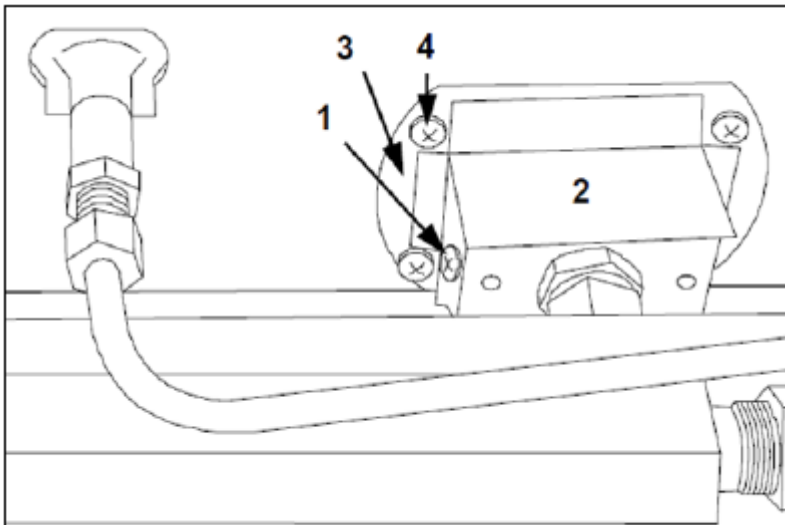

FIG.16
- Remove the air-regulation burner (FIG.16-Ref.2) unscrew the screws (FIG.16-Ref.1) and slip it out;
- Unscrew the 4 screws (FIG.16-Ref.4) slip out the burner (FIG.16-Ref.3) and substitute it;